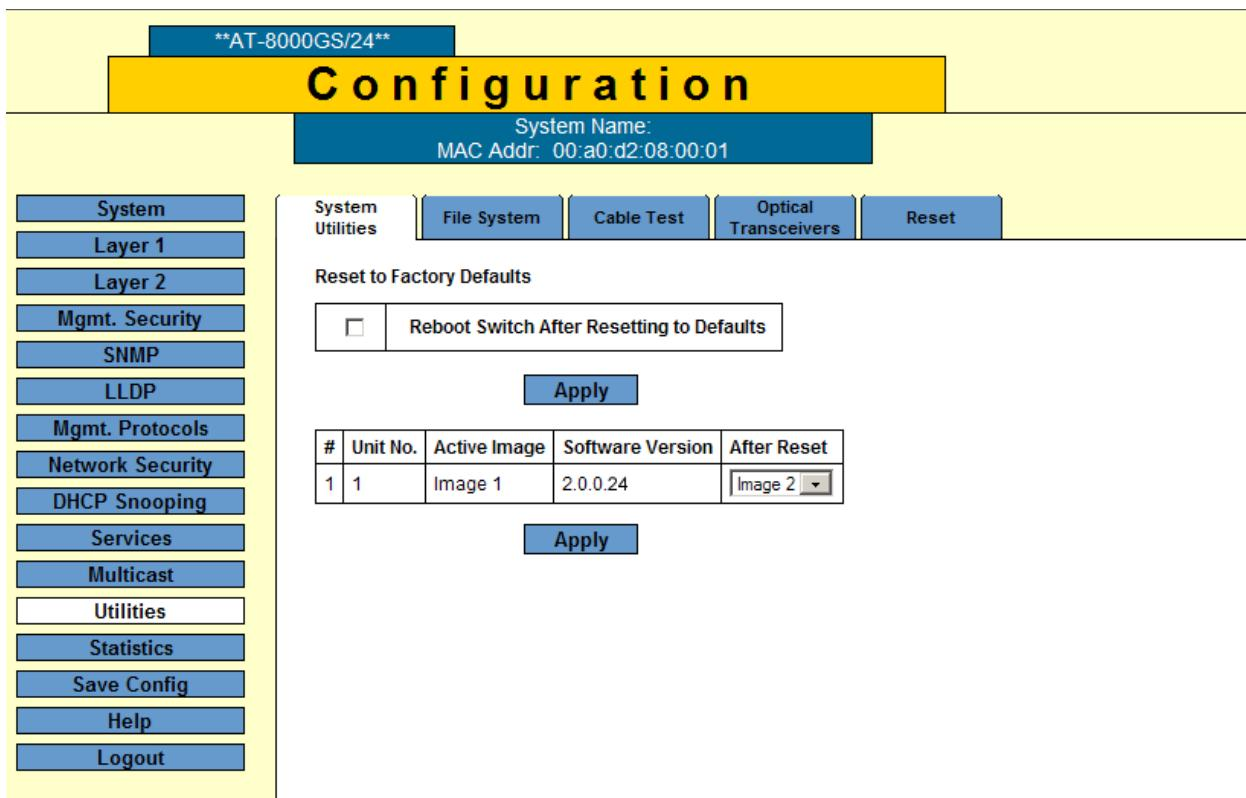

Figure 4. System Utilities Tab after Image 2 has been Loaded
13. Select the **System Utilities** tab. See Figure 4.